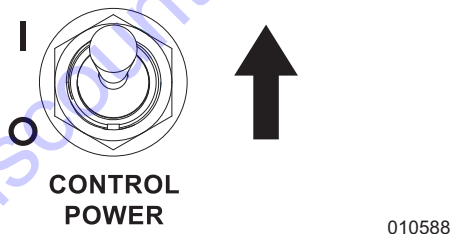

Figure 3-38. Controller Power ON
- See Figure 3-38. Switch controller power to ON (I).